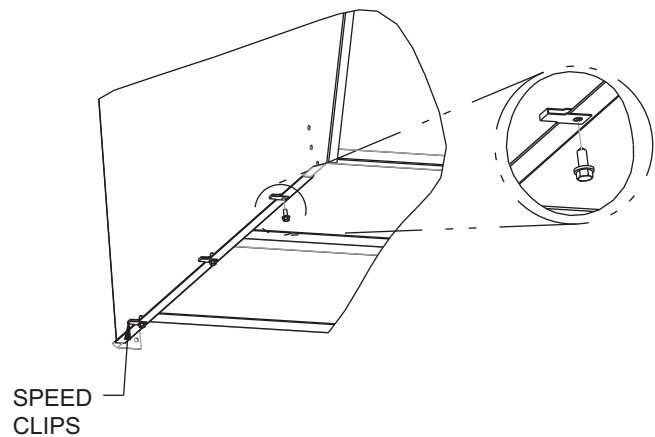

Fig. 26 — Bottom Filters Installed with Flange Pointing Down
11. Attach speed clips (provided) to hood side panels. Engagement section of clip faces up and towards the outside of the hood side panels. Attach mounting angles to hood with gasketed screws provided. See Fig. 26.